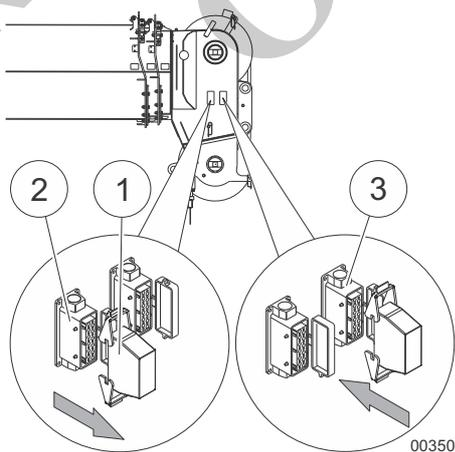

Fig. 187 Plugging the bypass plug on the telescopic boom head
19 Unplug the bypass plug (1) in Fig. 187 from the left bush (2) in Fig. 187 on the telescopic boom head and plug it into the right bush (3) in Fig. 187.